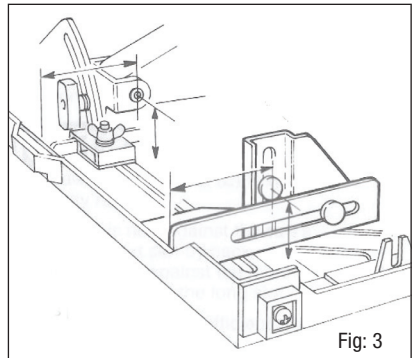

Fig: 3
**NOTE:** Fig 3 shows the pivot bolt set in line with the saw's front pivot. It is possible to achieve this by carefully lining up by eye, but it is preferable to measure the relative pivot points from your slide plate, as shown, using a ruler or measuring tape.